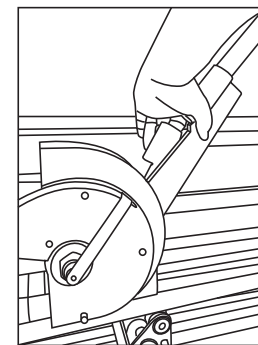

Fig 5
5. Utilize the ratcheting system to allow the operator to use body weight to increase bending force with minimal effort. To utilize this system, lift up on the ratchet release tab and lift the ratchet handle to lower to a suitable leverage point (Fig. 5). Release tab once desired angle is achieved. Lower ratchet handle up and down while bending the conduit until desired bend angle is reflected on the protractor. Allow for spring back in conduit by adding the spring back rating of the conduit brand to the degree of bend desired.